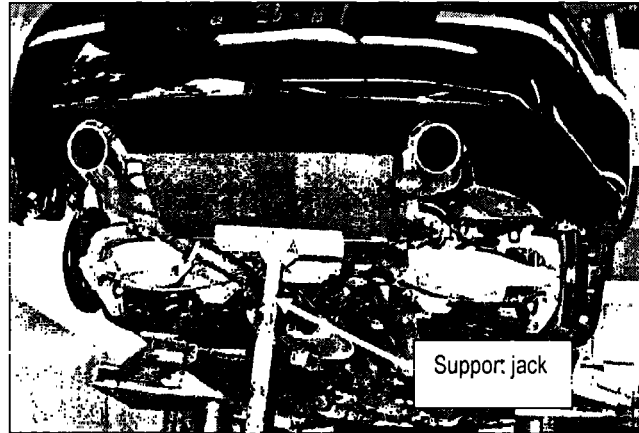

Figure 12
15. Support the rear muffler with a support jack (see Figure 12).